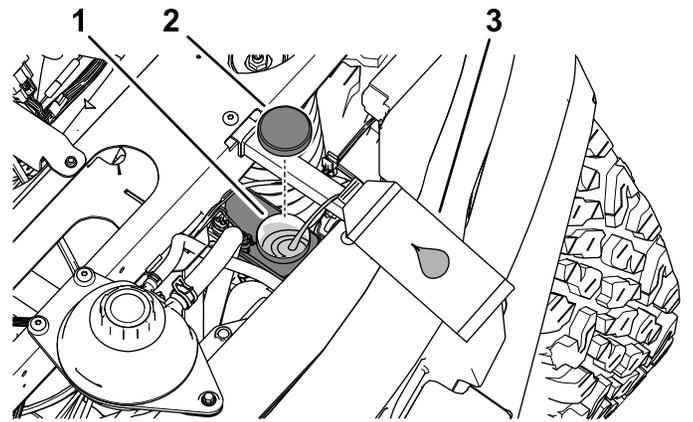

Figure 57
4. Raise the hood to access to the master brake cylinder and reservoir (Figure 57).
- A. Clean the area around the reservoir cap and remove the cap (Figure 57).
- C. Install the reservoir cap (Figure 57).